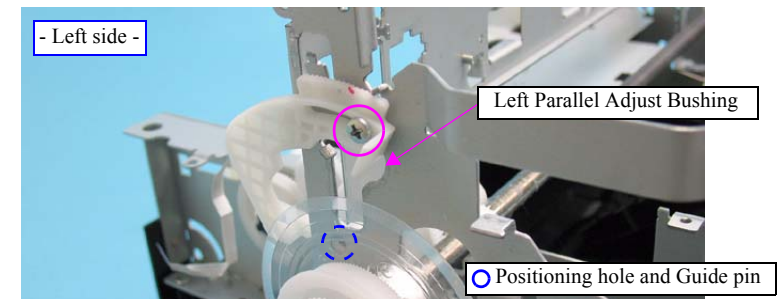

Figure 4-231. Removing the PF Roller Assy (1)
- When installing the Left Parallel Adjust Bushing, insert its positioning hole over the guide pin on the Main Frame as shown in Figure.4-231.